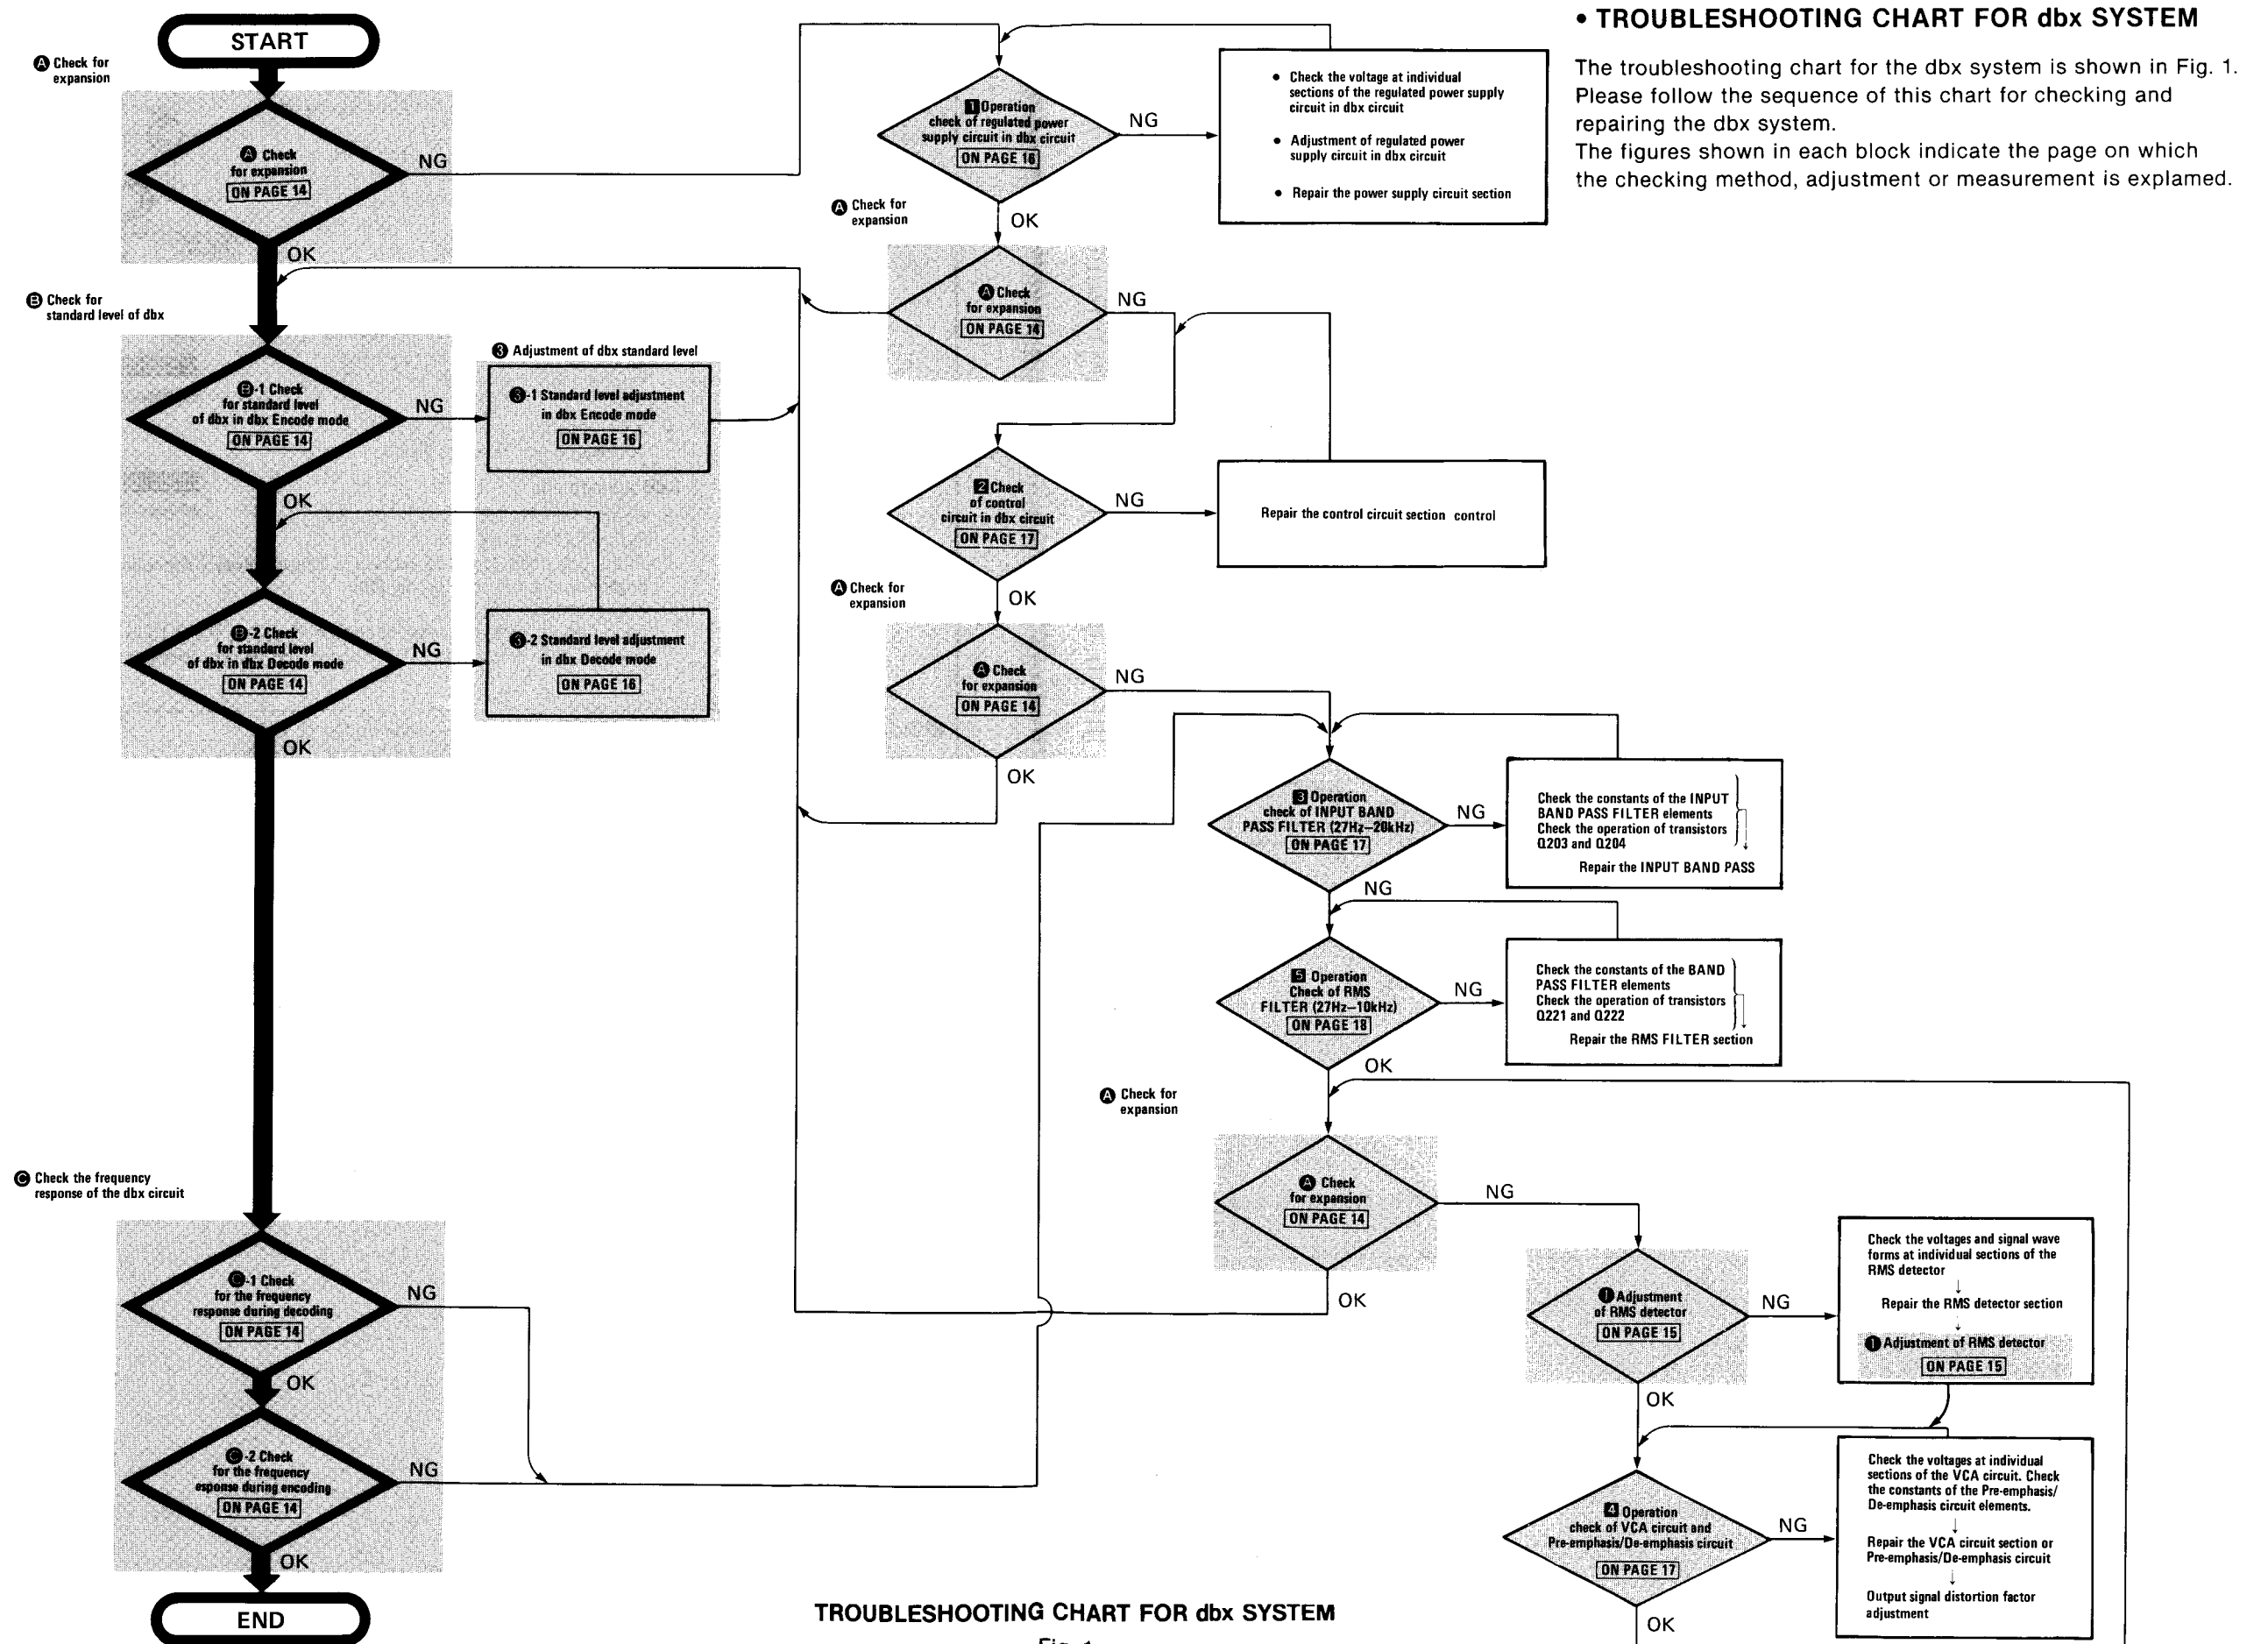

Fig. 1
Adjustment (A): When the curve exceeds the overall frequency response chart specifications (fig. 12) as shown in fig. 14.  Fig. 14 1) Increase bias current by turning VR9 (L-CH) and VR10 (R-CH). (See fig. 1 on page 5.) 2) Repeat steps 6 and 7 to confirm. (Proceed to steps 8, 9, 10 and 11 if the curve is now within the charted specifications in fig. 12.) 3) If the curve still exceeds the specifications (fig. 12), increase bias current further and repeat steps 6 and 7. Adjustment (B): When the curve falls below the overall frequency response chart specifications (fig. 12) as shown in fig. 15.  Fig. 15 1) Reduce bias current by turning VR9 (L-CH) and VR10 (R-CH). 2) Repeat steps 6 and 7 to confirm. (Proceed to steps 8, 9, 10 and 11 if the curve is now within the charted specifications in fig. 12.) 3) If the curve still falls below the charted specifications (fig. 12), reduce bias current further and repeat steps 6 and 7. Overall frequency response chart (CrO₂, Metal)  Fig. 16 8. Place UNIT into CrO₂ tape mode. 9. Change test tape to QZZCRX, and record 50Hz, 100Hz, 200Hz, 500Hz, 1kHz, 4kHz, 8kHz, 10kHz and 12.5kHz signals. Then, playback the signals and check if the curve is within the limits shown in the overall frequency response chart for CrO₂ tapes (fig. 16). 10. Place UNIT into metal tape mode change test tape to QZZCRZ, and record 50Hz, 100Hz, 200Hz, 500Hz, 1kHz, 4kHz, 8kHz, 10kHz and 12.5kHz signals. Then, playback the signals and check if the curve is within the limits shown in the overall frequency response chart for metal tapes (fig. 16). 11. Confirm that bias currents are approximately as follows when the UNIT is set at different tape mode. * Read voltage on VTVM and calculate bias current by following formula: $\text{Bias current (A)} = \frac{\text{Value read on VTVM (V)}}{10 (\Omega)}$ Standard value: around 340 μA (Normal position) around 440 μA (CrO₂ position) around 710 μA (Metal position) } : measured at TP1 (L-CH) and TP2 (R-CH)